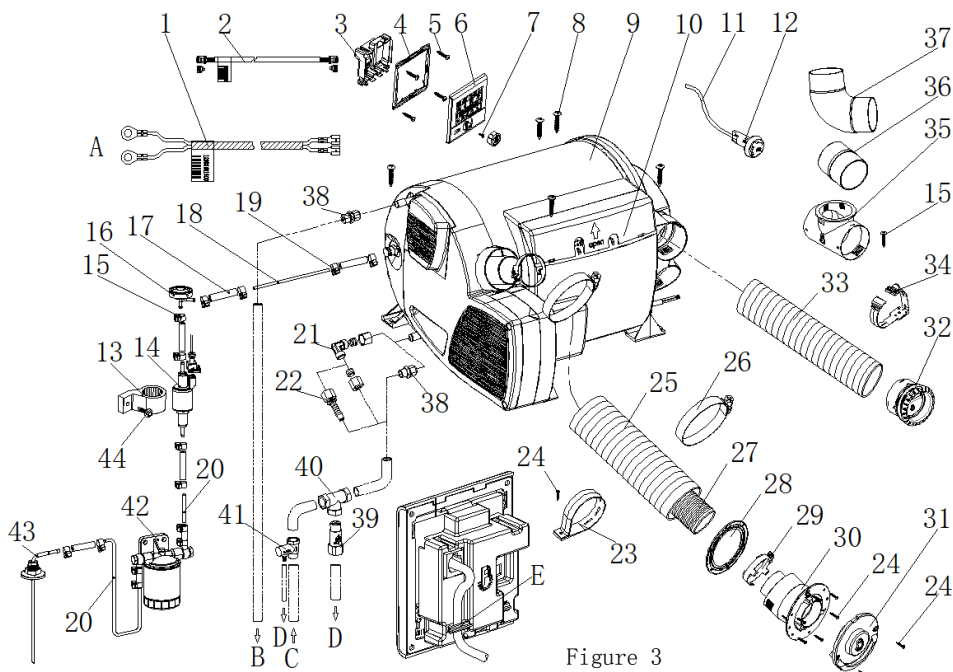

Figure 3
Heater installation Figure 3.
- In other words, no less than four warm air outlets (figure 3_32) are opened. Make sure that more than four warm air outlets are opened.